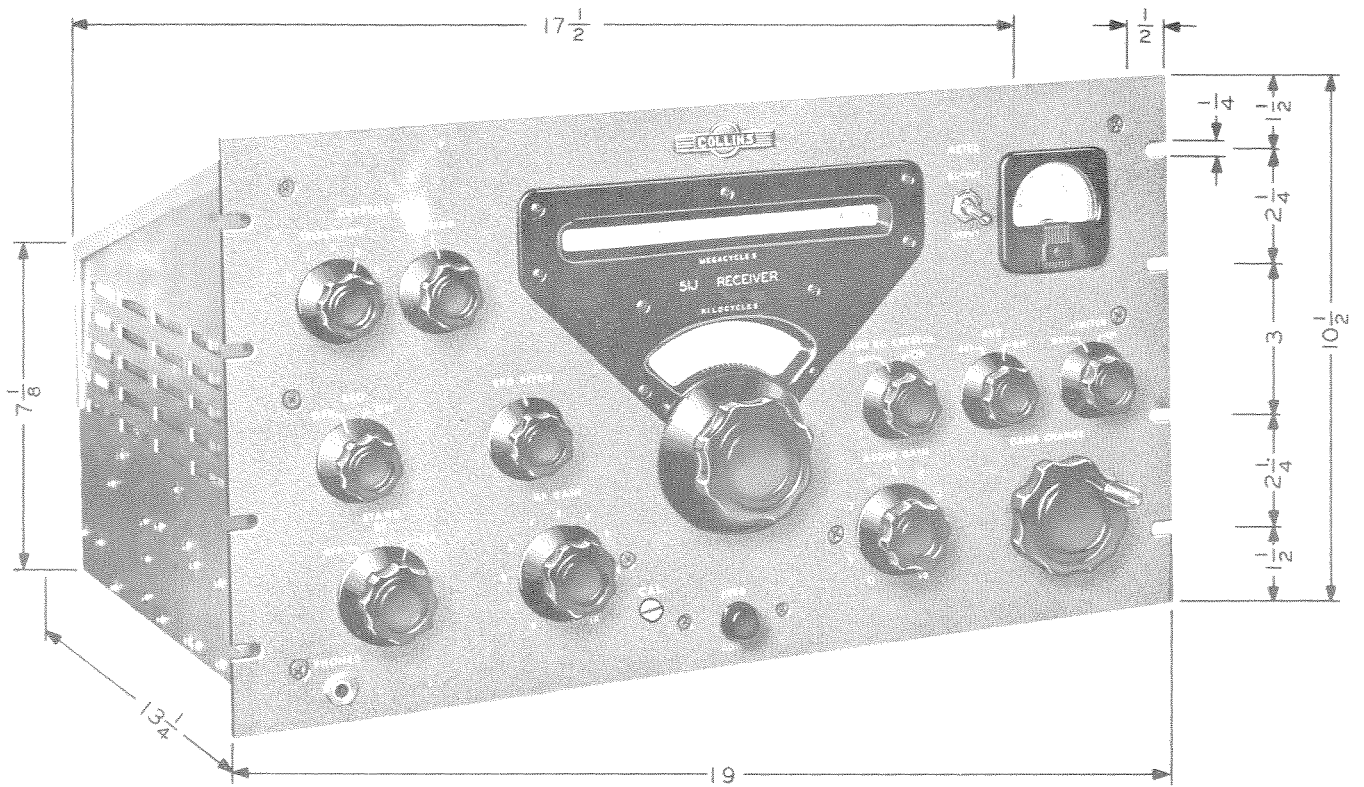

Figure 2-1 51J Receiver, Mounting Dimensions
2.2.1. GENERAL. - The receiver is intended primarily for rack mounting. Refer to figure 2-1 for outline and mounting dimensions. The front panel is slotted for mounting at 1-1/2, 3-3/4, 6-3/4, and 9 inches from the bottom. The panel height is 10-1/2 inches while the panel width is 19 inches for rack mounting.